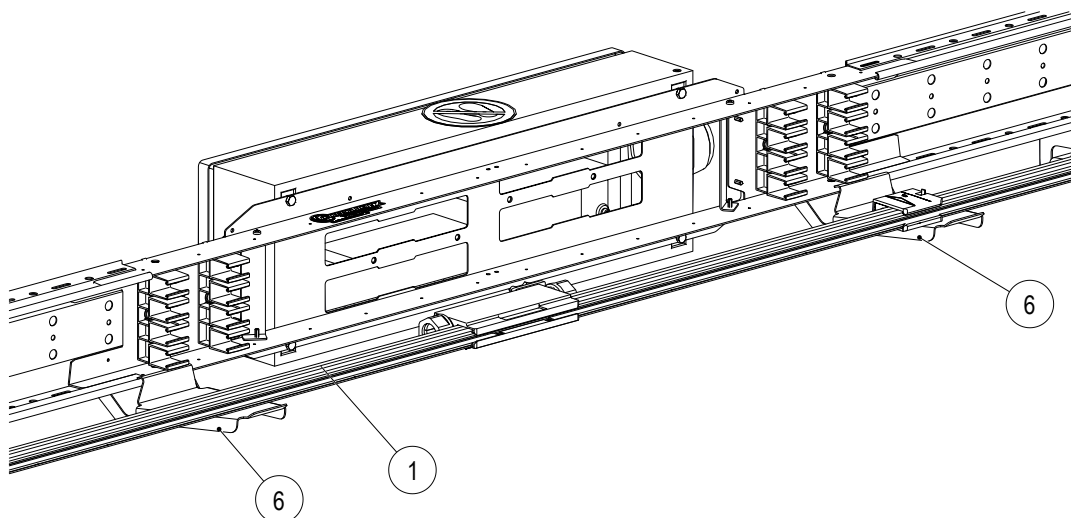

Fig. 27: Lay conductor rail with line feed and anchor point (1) on auxiliary consoles (6)
2. Place the conductor rail with the installed line feed and anchor point (1) on the auxiliary consoles (6) to be able to connect the conductor rail (1) to the additional conductor rails on the right and left (see Fig. 27). For better handling during connection, auxiliary consoles should also be hooked onto the ProShell Support Profile System for the additional conductor rails.